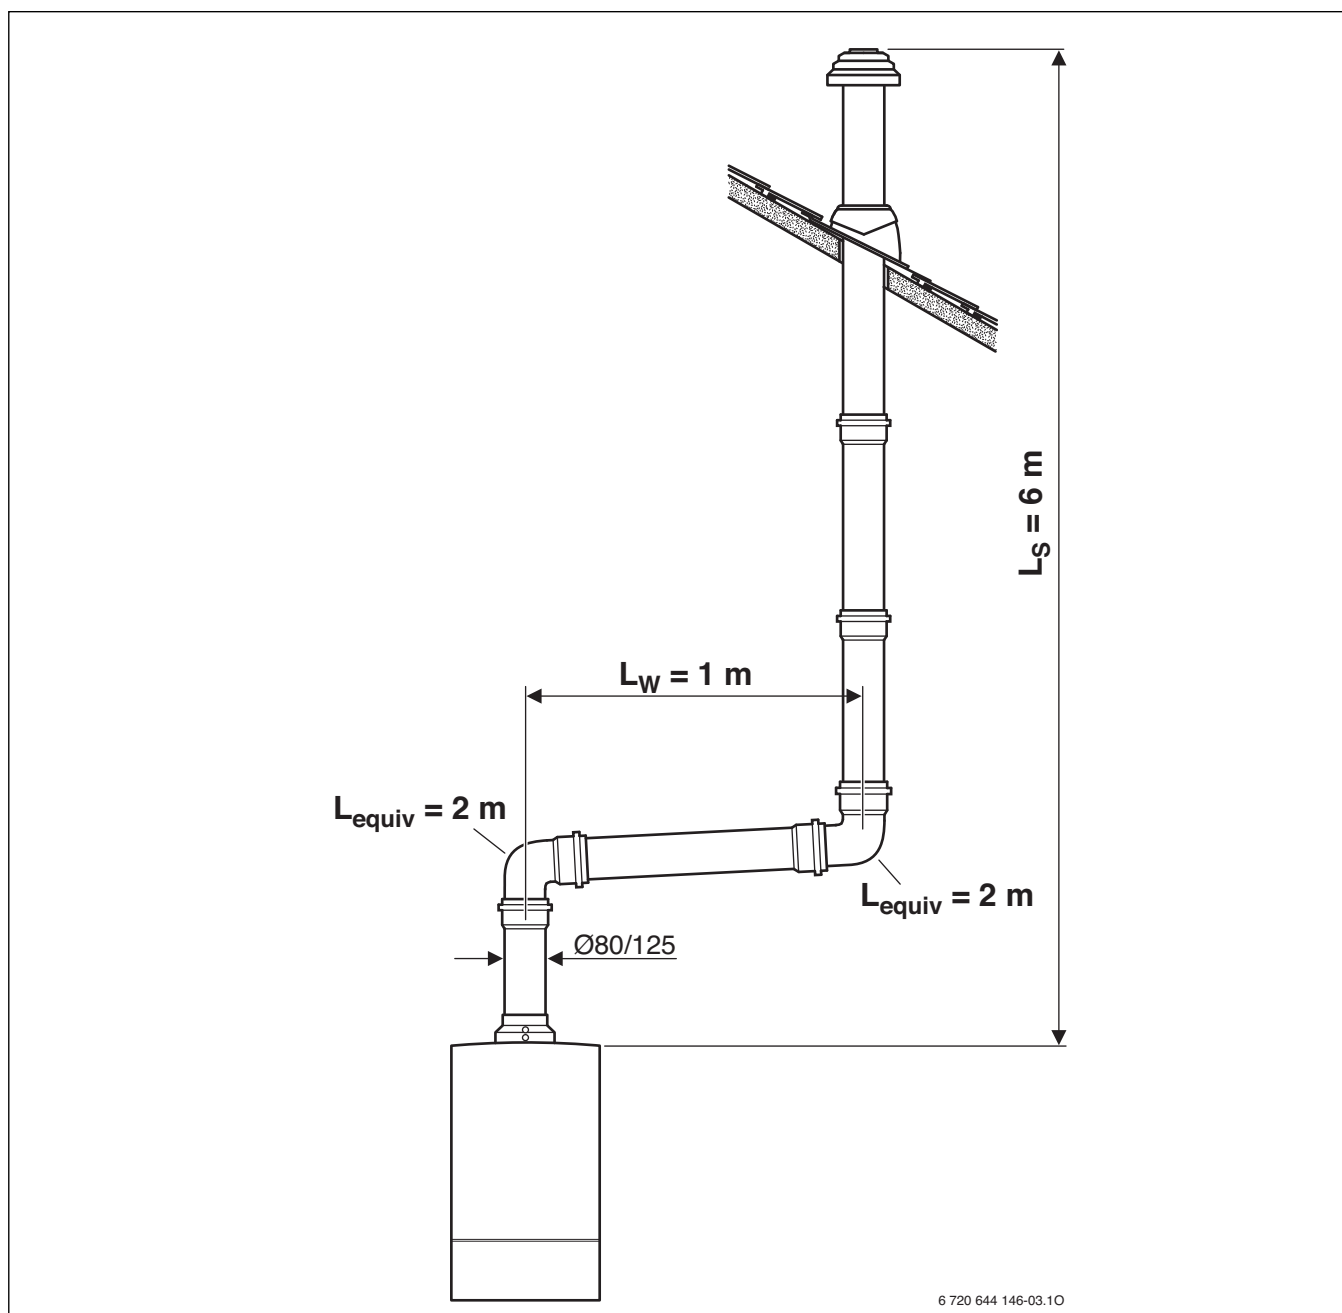

Fig. 9
5.4 Example for calculating the flue lengths (Fig. 9)